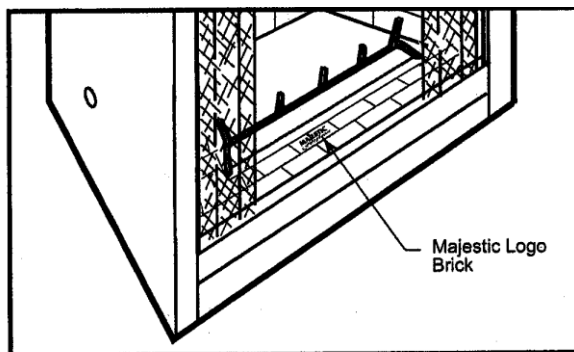

Figure 5
2. Lift the brick with Majestic logo on it (Refer Figure 5)